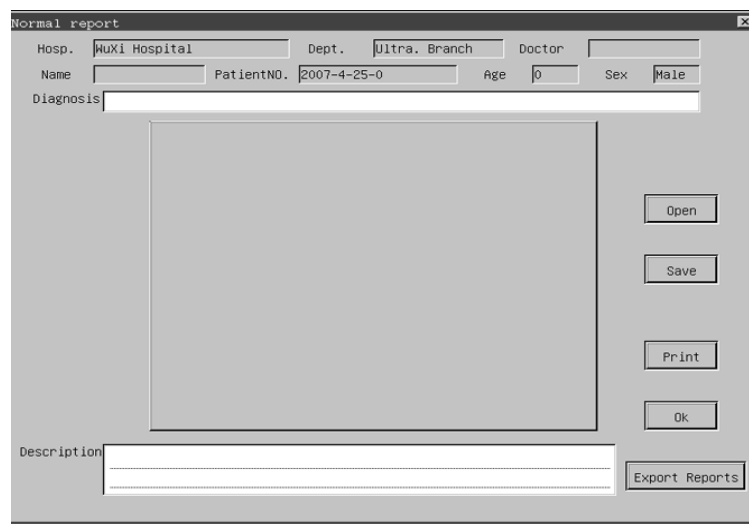

Fig. 14-2 Normal examination report interface
1. There is one frame for image input in the center of the report page (see above Fig. 14-2), press **【SET】** key on the frame to select it,